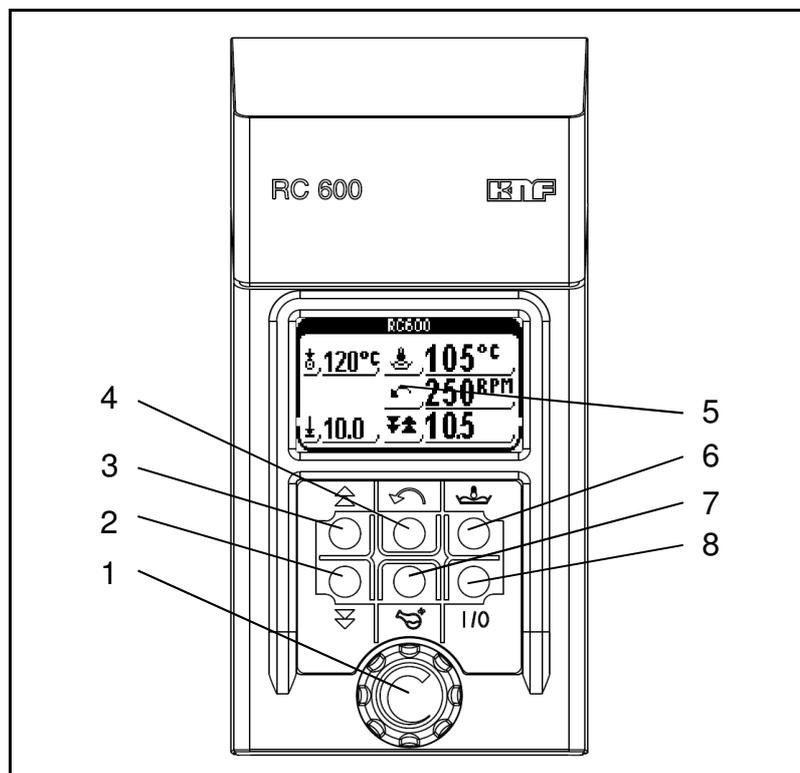

Fig. 2: Terminal RC 600
Settings are adjusted via the terminal's membrane buttons (Fig. 2/2+3+4+6+7+8) or with the rotary knob (1).